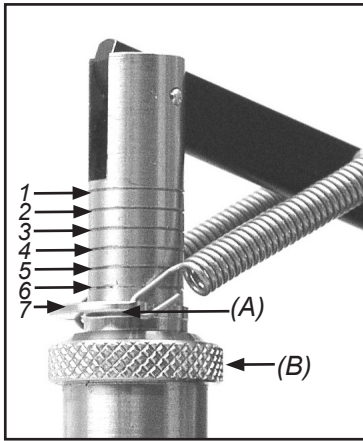

Fig. 5.1 The plate (A) adjusted to groove 7 leads to maximum force (approx. 8 N)
Referring to Fig. 5.1 below: The position of the spring-connected plate (A) determines the force the spring-loaded arm applies to the device under test:
1. Adjust the screw (B) for the plate (A) to step between the grooves 1-7.
Note: If a maximum force of 8 N (Fig. 5.1) is insufficient, high-tension can be supplied - see section 8 *What to Order*.